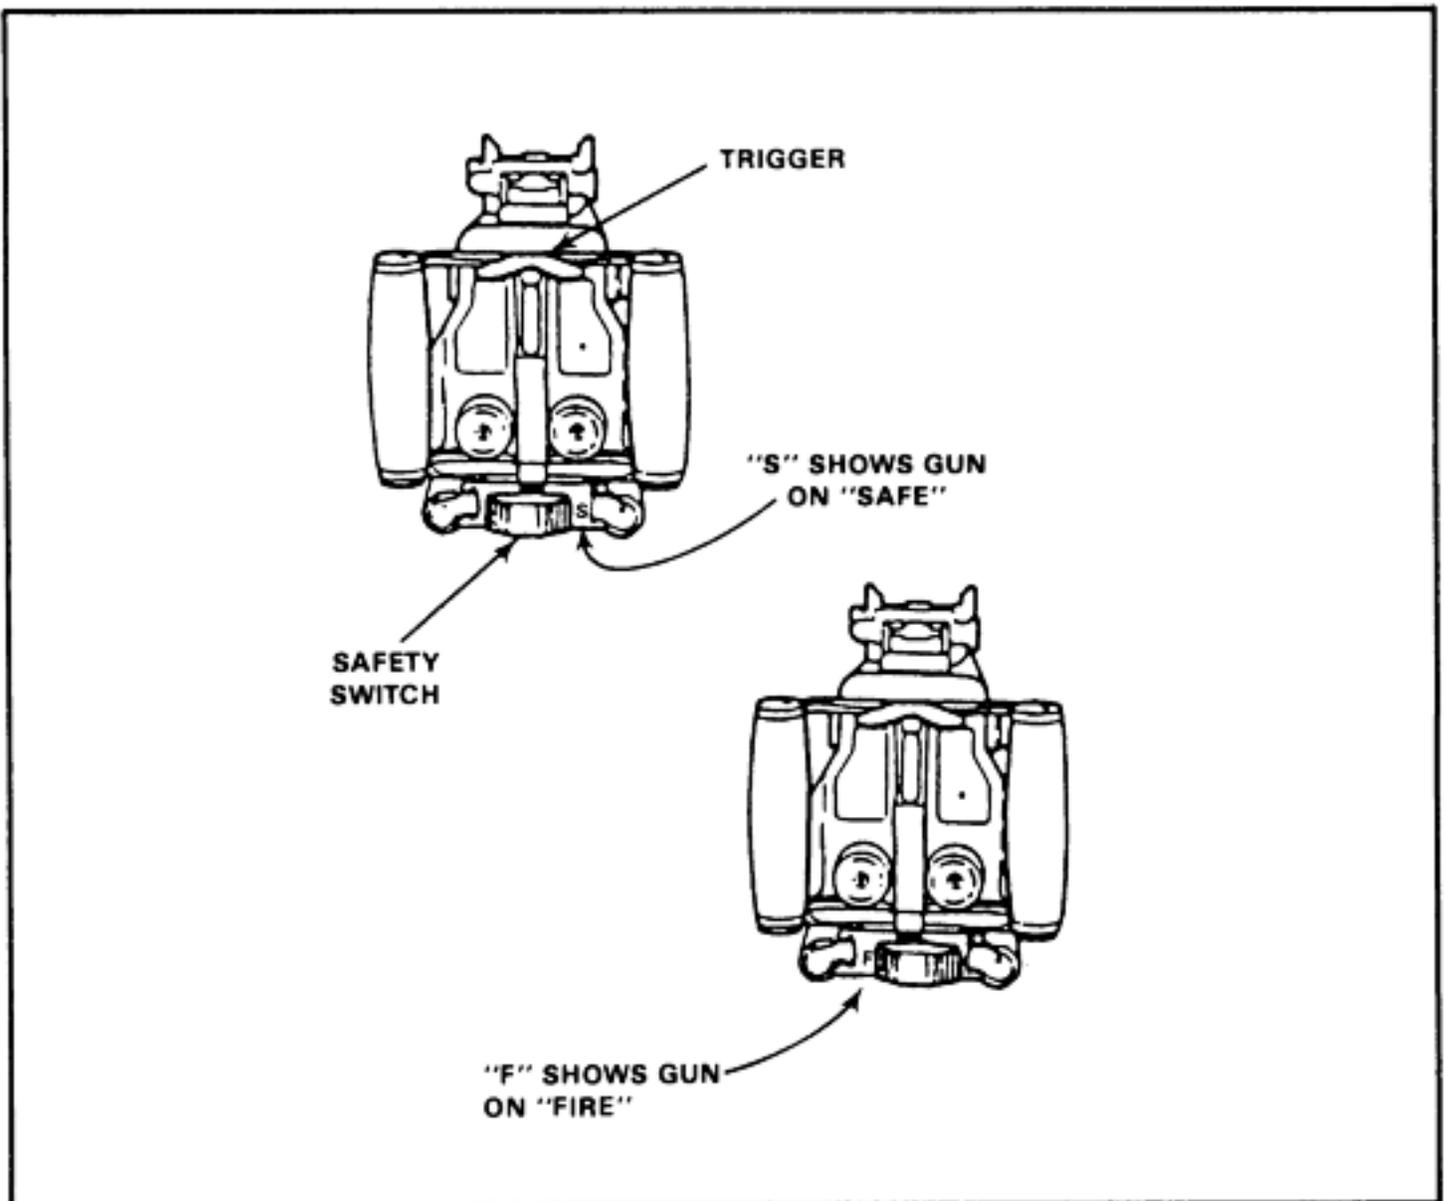

Figure 2-1. SAFE ("S") position.
(1) Move the safety switch to SAFE ("S") (Figure 2-1). If all the ammunition has NOT been fired, the bolt is to the rear and a round is on the bolt face.
- (6) Inspect the chamber and bolt face again to ensure that no live rounds are in the weapon.
- (7) Place the safety switch on FIRE ("F") (Figure 2-1).
- (8) While maintaining rearward pressure on the charging press the trigger and ease the bolt forward.
- (9) Place the safety switch on SAFE.
- (1) Place the safety switch on SAFE (Figure 2-1).
- (2) Open the top cover assembly.
- (3) Lower one charger handle.
- (4) Pull the charger handle slightly to the rear, allowing sufficient space between the face of the bolt and the chamber to see both. Check for live ammunition.
- (5) Ride the bolt forward.
- (6) Return the charger handle to its original upright position.